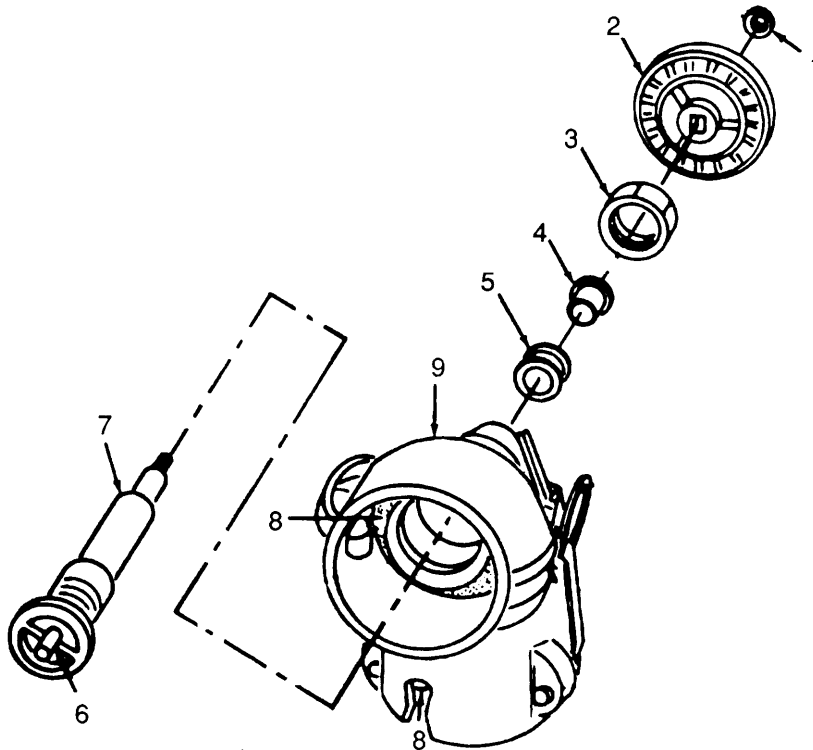

Figure 4-13. Elbow Coupler Valve, Disassembly/Reassembly.
- (1) Inspect valve for damaged or missing camlock levers.
- (2) Check valve for ease of operation by turning handwheel.
- (3) Check valve for damage or missing parts.
e. Disassembly (Refer to Figure 4-13.)
- (1) Remove nut (1) and handwheel (2).
- (2) Remove nut (3), gland (4), and packing (5) from body (9). Discard packing.
- (3) Remove pin (6), stem (7), and two gaskets (8) from body (9). Discard gaskets.
- (1) Refer to Figure 4-13 and install two gaskets (8) in body (9).
- (2) Install stem (7) and pin (6).
- (3) Install packing (5), gland (4), and nut (3).
- (4) Install handwheel (2) and secure with nut (1).